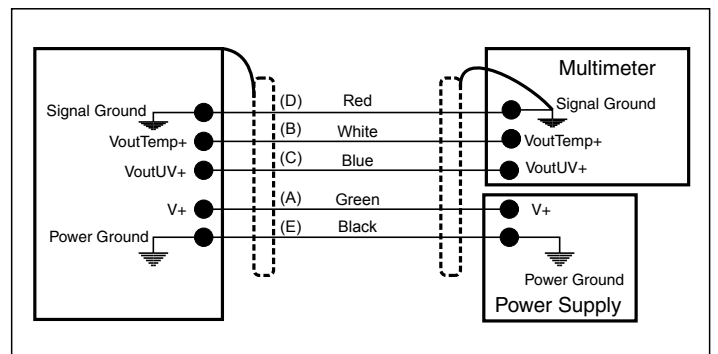

Fig. 7
- The LP UVB 02 has to be connected either to a voltmeter or to a data acquisition system with input impedance greater than 10KΩ. Typically, the radiometer output signal, when exposed to the sun, does not exceed 1 volt. In order to better exploit the radiometer features, the readout instrument should have 0.1mV resolution. Note: The instrument's load impedance readout must be greater than 10MΩ. The connections layout is shown in Fig. 7